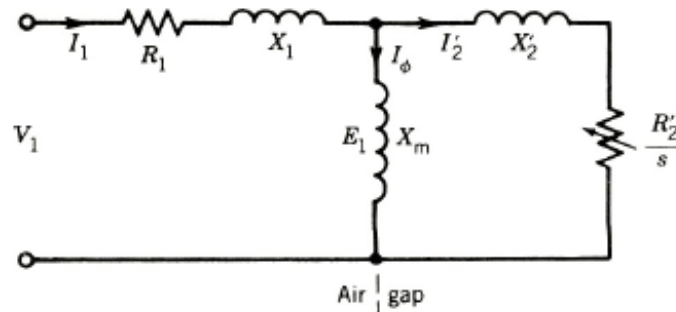

FIGURE 5.15 IEEE-recommended equivalent circuit.
- (b) Determine the parameters of the IEEE-recommended equivalent circuit of Fig. 5.15.
- (b) *IEEE-recommended equivalent circuit.* For the no-load condition, R_2'/s is very high. Therefore, in the equivalent circuit of Fig. 5.15, the magnetizing reactance X_m is shunted by a very high resistive branch representing the rotor circuit. The reactance of this parallel combination is almost the same as X_m . Therefore, the total reactance X_{NL} , measured at no load at the stator terminals, is essentially $X_1 + X_m$. The equivalent circuit at no load is shown in Fig. E5.3a.
For the blocked-rotor test the slip is 1. In the equivalent circuit of Fig. 5.15, the magnetizing reactance X_m is shunted by the low-impedance branch $jX'_2 + R'_2$. Because $|X_m| \gg |R'_2 + jX'_2|$, the impedance X_m can be neglected and the equivalent circuit for the blocked-rotor test reduces to the form shown in Fig. E5.3b. From the blocked-rotor test, the blocked-rotor resistance is